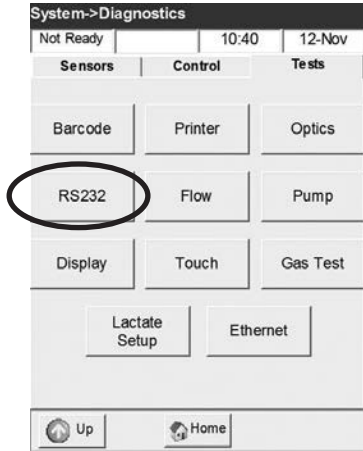

Fig. 7-20 RS232 Interface
- Press **<RS232>** to start the test (Fig. 7-20).